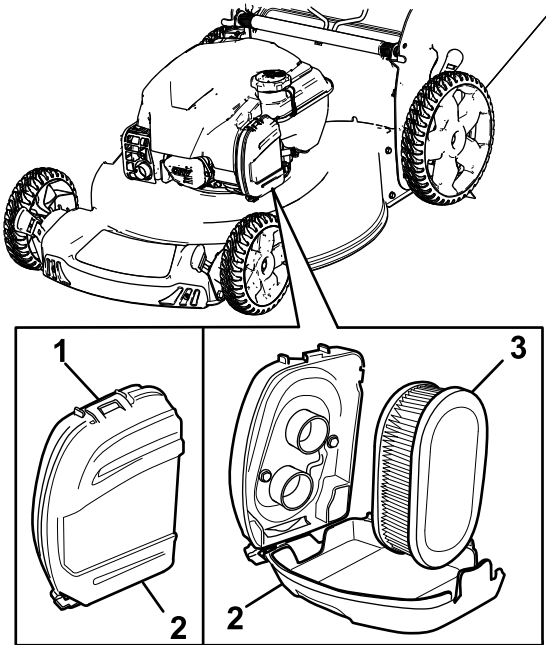

Figure 24
1. Unclip the top of the air-filter cover (Figure 24).
2. Remove the air filter (Figure 24).